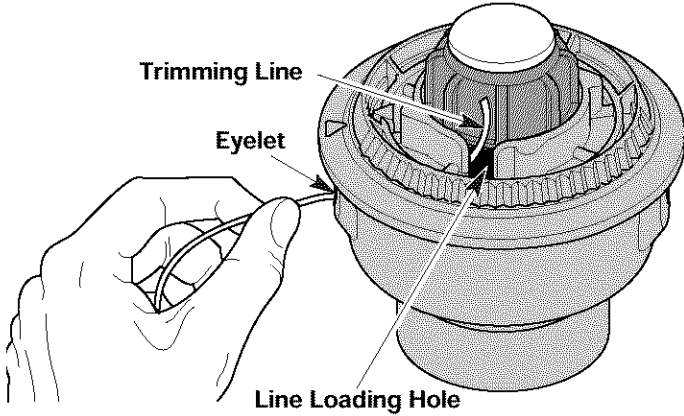

Fig. 19
3. Pull old line out of the line loading and line locking holes (Fig. 19 and 20).
4. Insert a piece of trimming line into one of the two eyelets in the outer spool. Push it up through the line loading hole in the inner reel (Fig. 19). Do not bend the line when inserting it into the eyelet.